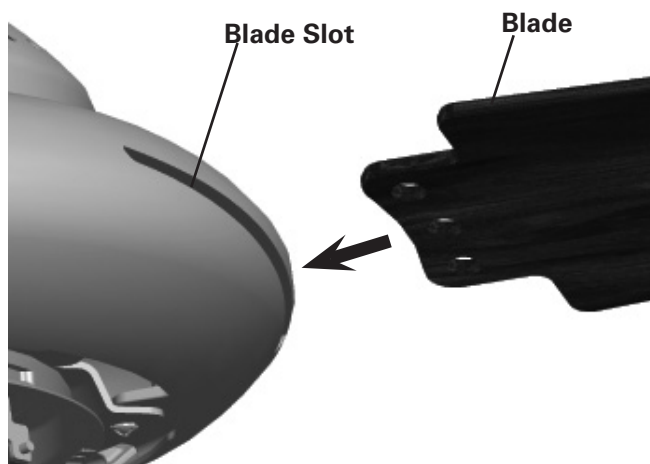

FIGURE 1.
**Step 1.** Locate the blade slot on the side of the fan as shown in Figure 1, and insert the blade into the slot.